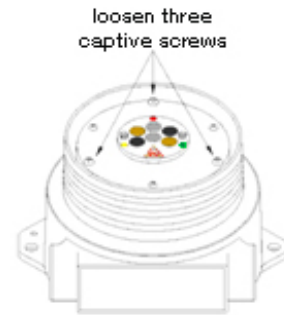

Figure 2-8
3. Loosen the three captive screws on the Detector Module puck (see *Figure 2-8*).